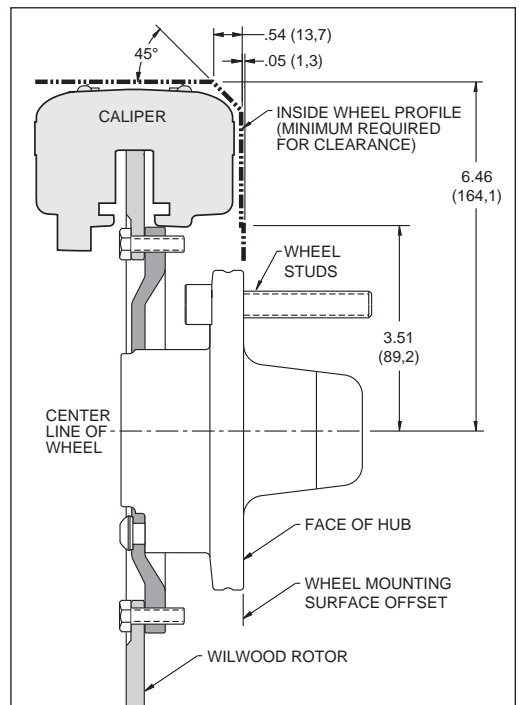

Figure 1. Wheel Clearance Diagram
- Review the wheel clearance diagram (figure 1, page 3) to verify that there is adequate clearance with the wheels you will be using with the installation.
- Verify wheel clearance using figure 1.